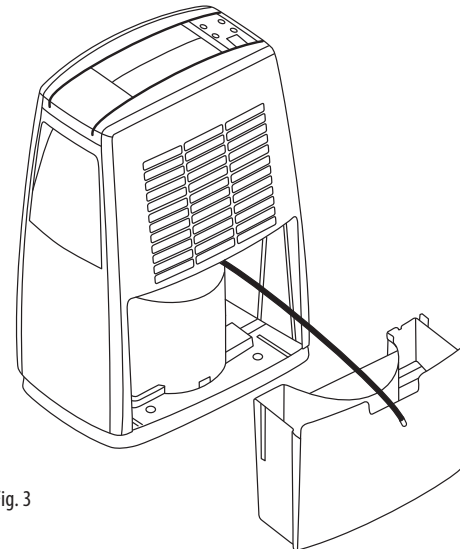

Fig. 3
To use the continuous drainage function attach the water hose (7) to the water out hole (5) as shown in diagram (See Fig. 3). Replace the water tank and use the unit as indicated under operating instructions.